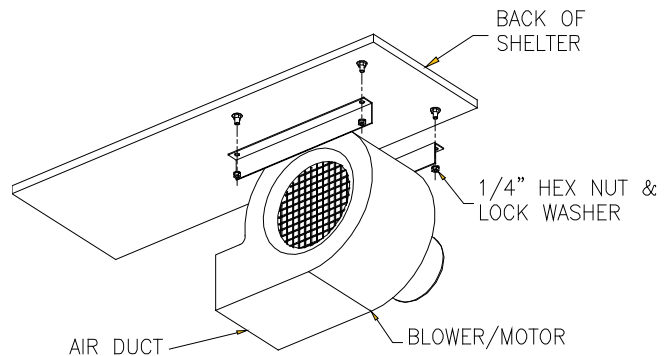

FIG. 11
- Attach "S" hook on end of bungee cord to "D" ring of head bag (Fig. 11).
- Mount motor/blower (Figure 11).